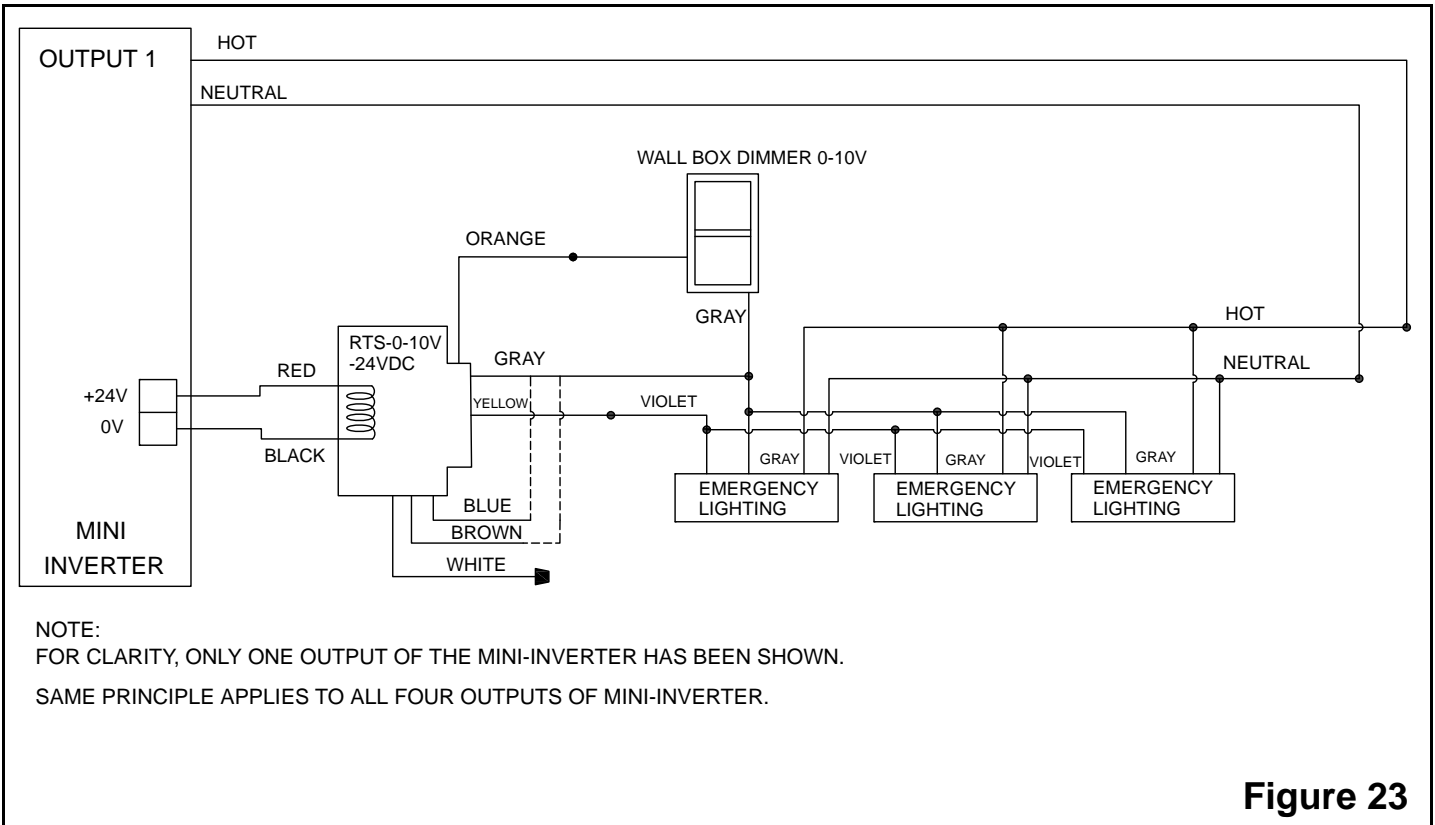

Figure 23
- c. Refer to figure 23 for a simplified wiring diagram (FOR REFERENCE ONLY). Refer to the dimming module (RTS-0-10V) manufacturer's wiring diagram for more information.